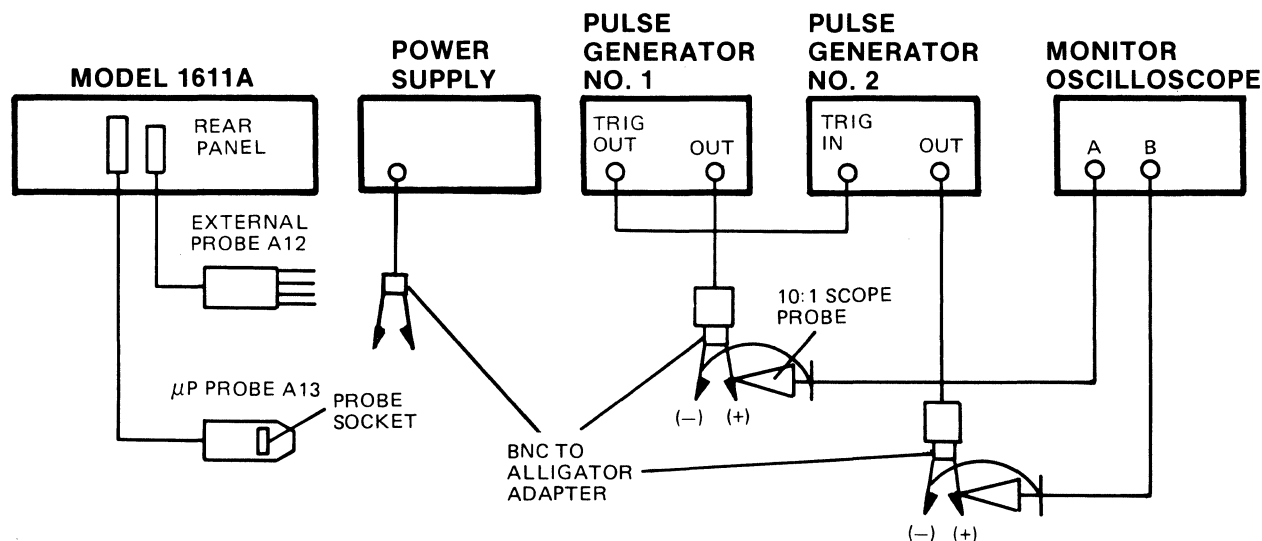

Figure 4-12. Data Lines Test Setup
- a. Connect test equipment as shown in figure 4-12.